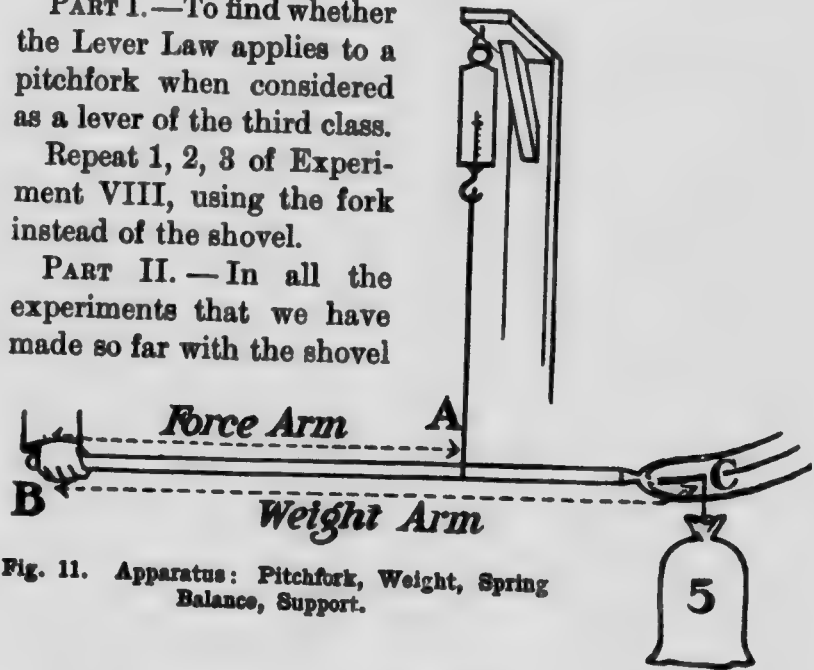

Fig. 11. Apparatus: Pitchfork, Weight, Spring Balance, Support.
1. Move the position of A and of B 1 foot nearer to the tines, Fig. 11 a. Of course the fork is no longer balanced and each hand supports part of its weight.
Fig. 11 a. Apparatus: Pitchfork, Weight, Spring Balance, Support.
1. A pitchfork is balanced as in Fig. 11. The distance BA is 3 feet; the distance BC is 5 feet. It takes 3 lbs. to support the fork alone. What is the total force at A required to support 5 lbs. attached at C?